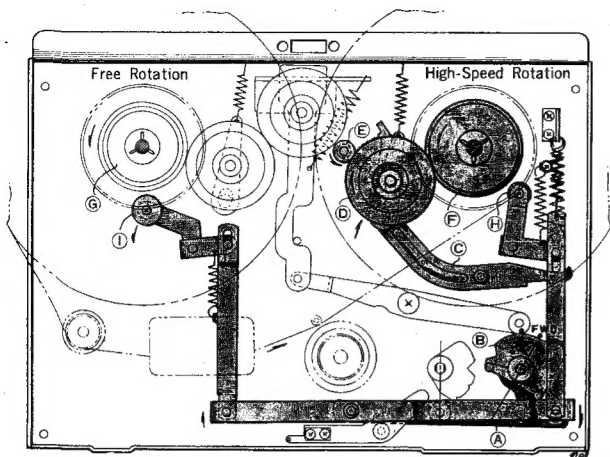

Fig. 3
Turning the *FAST FWD-REWIND LEVER* (A) to "FAST FWD" position, causes *cam* (B) under the knob to push up *Lever* (C). *Idler* (D) moves into the space between *Plastic Roller* (F) above the *Take-Up Reel Spindle* and the upper part of the rotating motor drive bushing to transmit the motor rotation to the take-up reel spindle. At the same time, *Brake Rollers* (H) and (I) come off the reel spindle to free *Supply Reel Spindles* (G) and (F), thereby allowing fast winding of the tape onto the take-up reel. (See figure 3)